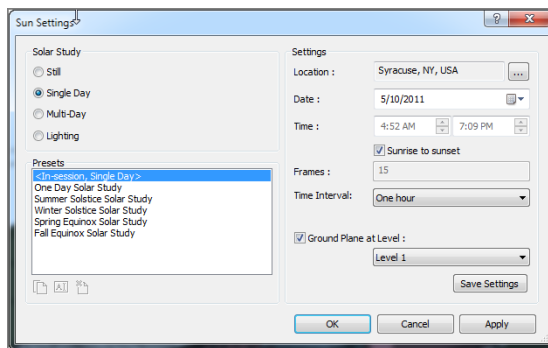

FIGURE 19.24: Setting up the solar study
5. In the Sun Settings dialog, click the Single Day radio button, as shown in Figure 19.24.
8. Set Time Interval to One Hour (see Figure 19.24).